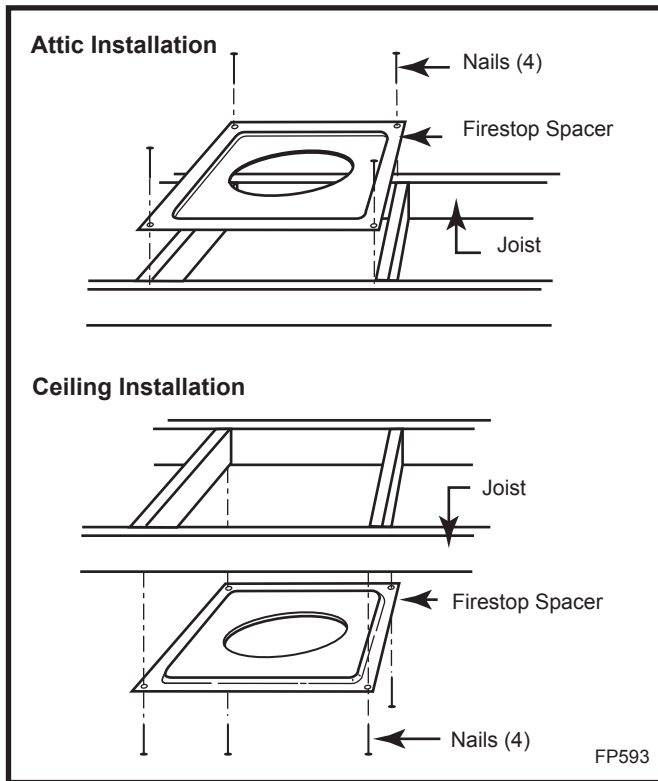

Fig. 35 Installing firestop spacer.
6. Place firestop(s) SKFS2A or Attic Insulation Shield AIS-SK into position and secure. (Figs. 35, 36)
7. Install roof support (Fig. 35) and roof flashing making sure upper flange of flashing is below the shingles.